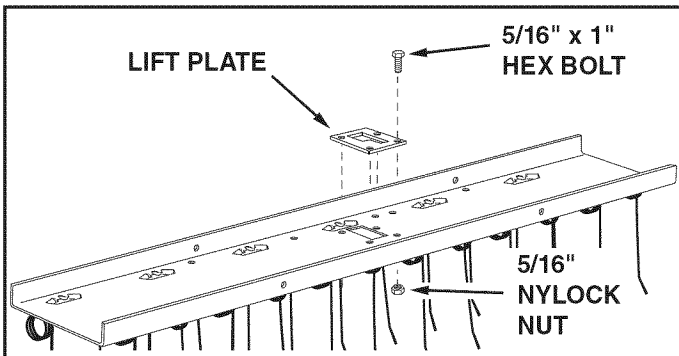

FIGURE 1
- Assemble the lift plate to the top of the tine shield using four 5/16" x 1" hex bolts and 5/16" nylock nuts. **Tighten.** See figure 1.